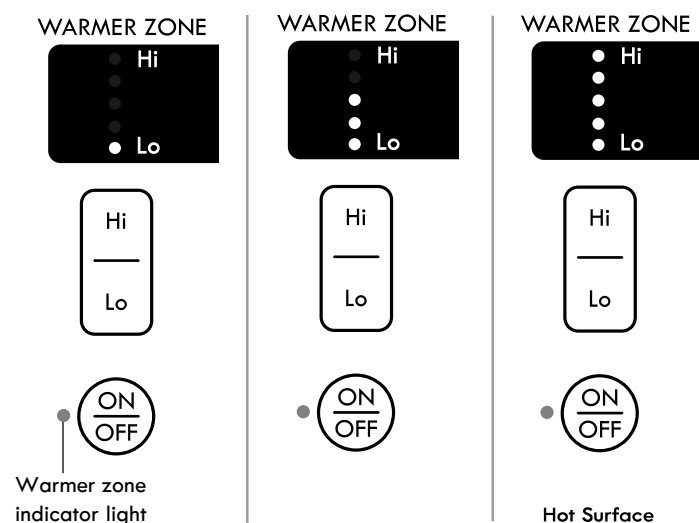

Fig. 1
3. To set heat level press **Hi** or **Lo** keypad and if needed toggle using these keypads to adjust to the desired power level setting. Release keypad when desired heat level is displayed by the indicator lights. Fig. 1 below shows examples for low, medium and high settings.
When using the warmer zone, the cooktop may become hot. After turning the warmer zone off the cooktop may remain HOT for some time. The warmer zone **Hot Surface** indicator light (Fig. 1) will turn on when the warmer zone becomes HOT and turn off once the cooktop has cooled sufficiently.